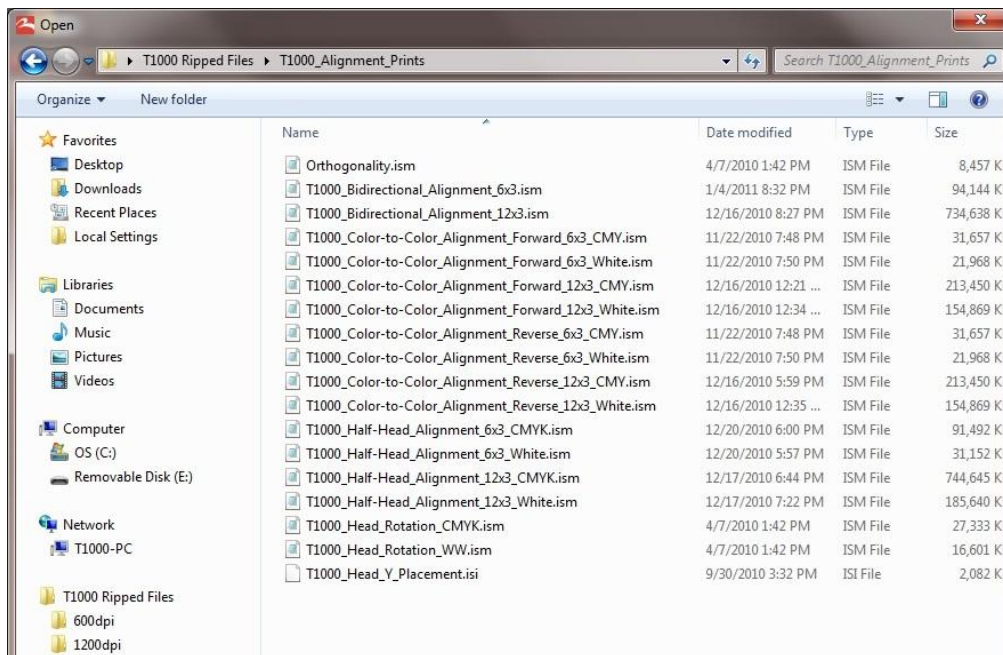

Figure 6: Navigate to test prints list
1. Navigate to **C:\Program Files\T1000\1.0.1.XXXX\diagnostic prints**. The list of alignment files shown in Figure 6 is displayed.